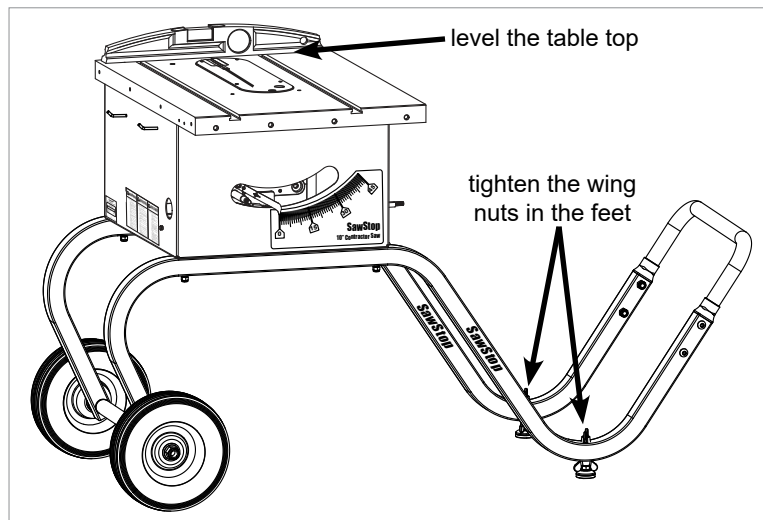

Fig. 13
13. Place a level across the table top and adjust the two leveling feet of the mobile cart by turning the lower wing nuts until the table top is level (you may need to loosen the upper wing nuts). When the saw is level, tighten the four wing nuts by hand (see Fig. 13).